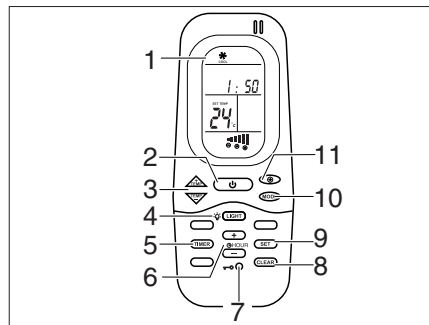
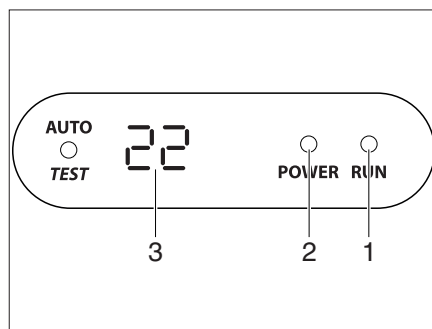

Fig. 117 Remote control
Fig. 118 Display on the diffuser
The air conditioning unit is located on the roof of the vehicle. The remote control (Fig. 117) for the air conditioning unit is located in the kitchen area.
The air conditioning unit is ready to operate. The LED (Fig. 118,2) on the diffuser's display lights up red.
- To switch on, press the on/off switch (Fig. 117,2) on the remote control. The LED (Fig. 118,1) lights up green when the air conditioning unit is in cooling mode. The LED (Fig. 118,1) lights up red when the air conditioning unit is in heating mode.
- Set the desired operating mode using the MODE button (Fig. 117,10).
- If necessary, set the desired fan level by using the button (Fig. 117,11) and the room temperature by using the buttons (Fig. 117,3).
- To switch off, press the On/Off switch (Fig. 117,2) on the remote control again.
- To carry out programming, switch on the air conditioning unit with the On/off switch (Fig. 117,2) on the remote control.
- Press the TIMER button (Fig. 117,5). The ON indicator for the Start time is activated.
- Set the time with the TEMP (+/-) buttons (Fig. 117,3).
- Press the TIMER button (Fig. 117,5) again. The OFF indicator for the Start time is activated.
- Press the TIMER button (Fig. 117,5) again.
- Upon completing the setting, press the SET button (Fig. 117,9).
- Press the CLEAR button (Fig. 117,8) to delete the timer programming.